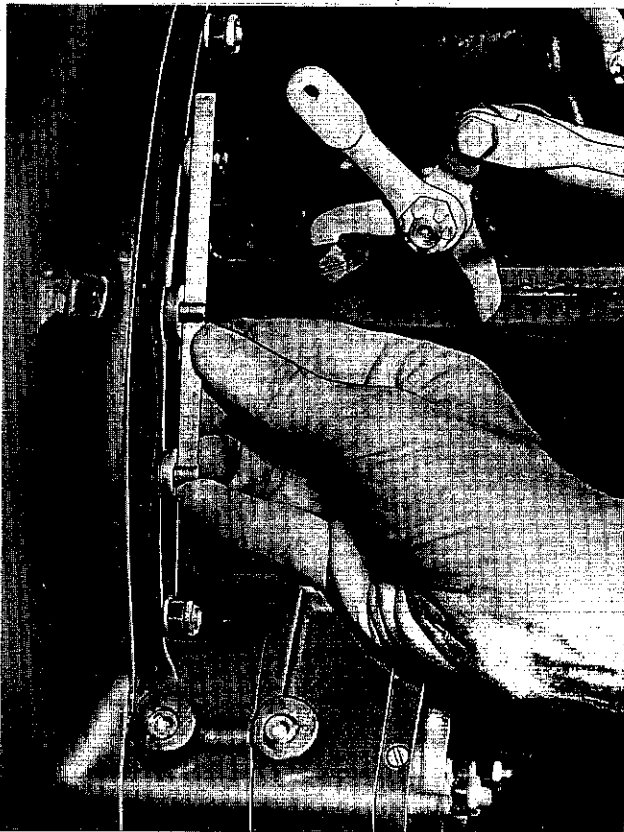

Figure 94—Checking Level of Spacer Washers on Type I Installation.
(2) Type I installation is mounted to the supercharger inlet cover by a different method than that required for a Type II or Type III installation.
(a) Since the Type I installation is mounted on a supercharger inlet cover that does not have a machined pad, it is necessary to use spacer washers and leveling shims between the regulator mounting face and the engine. Place the spacer washers over the thru mounting studs with the small diameter of the washer against the supercharger cover. Use a straight edge and see if these washers are flush and form a level mounting surface. (See Figure 94.) If not, then level using the .002" thick special shims. See Paragraph a. (2) (a) for part numbers. Remove the red "caution tag" which is wired to the slot headed plug located in the angular air inlet hole in the mounting face of the regulator. Screw this plug in sufficiently tight to seal this air inlet passage.